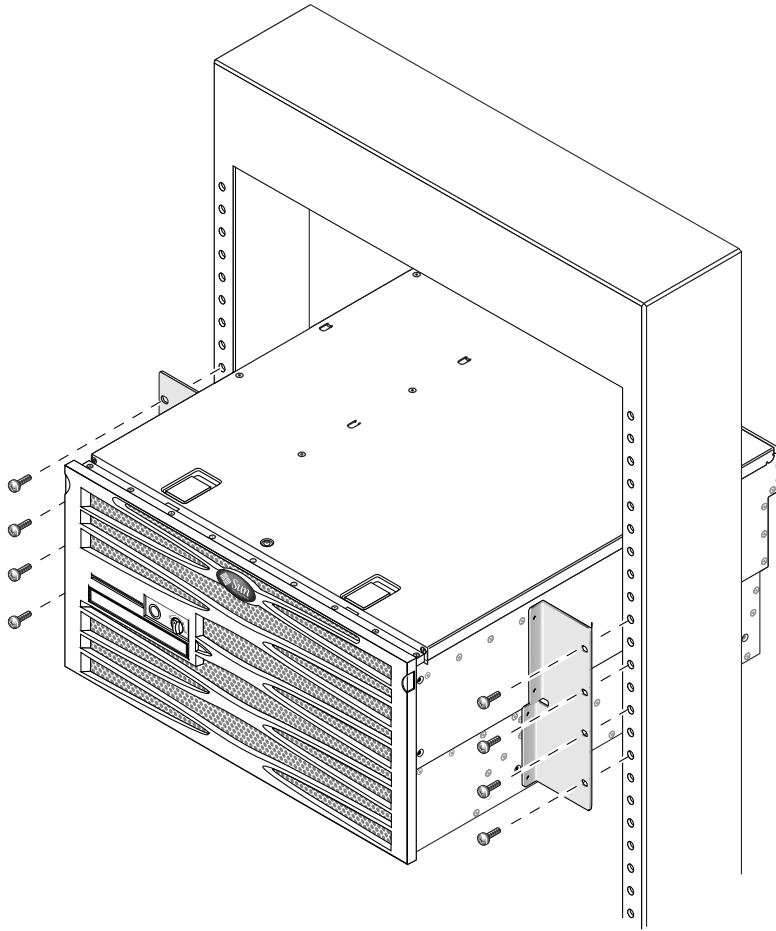

FIGURE 3-25 Securing the Front of the Server to the Rack
4. Using four screws per side, secure the front hardmount brackets attached to the sides of the server to the front of the rack (FIGURE 3-25).